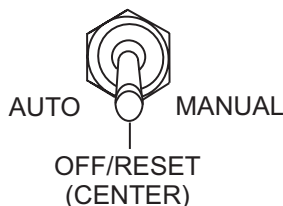

Figure 59. Auto Start/Stop Switch (Off/Reset)
3. Place the **Auto Start/Stop switch** (Figure 59) in the **OFF/RESET** position.